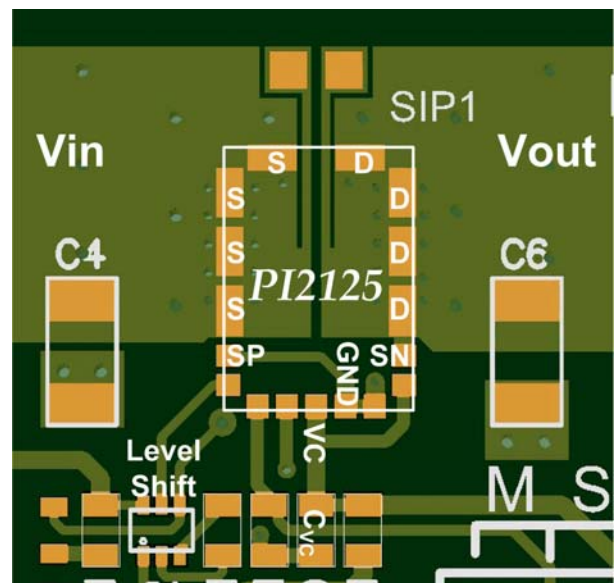

Figure 24: PI2125 layout recommendation
Use the following general guidelines when designing printed circuit boards. An example of the typical land pattern for the PI2125 in floating configuration is shown in Figure 24:
- Keep the power source very close to S input pins, since any parasitic in the trace connecting the power source and S pins will have inductive kick back when there is high current flow in the trace and the MOSFET turns off due to reverse current fault conditions. The inductive kick back will produce a high voltage across the MOSFET. If it is not possible to connect the power source and S pins with a very short trace or common point, connect the capacitor (shown as C4 in figure 24) close to the S pins and return (ground). Also for the same reason use C6, in figure 24 at the output.